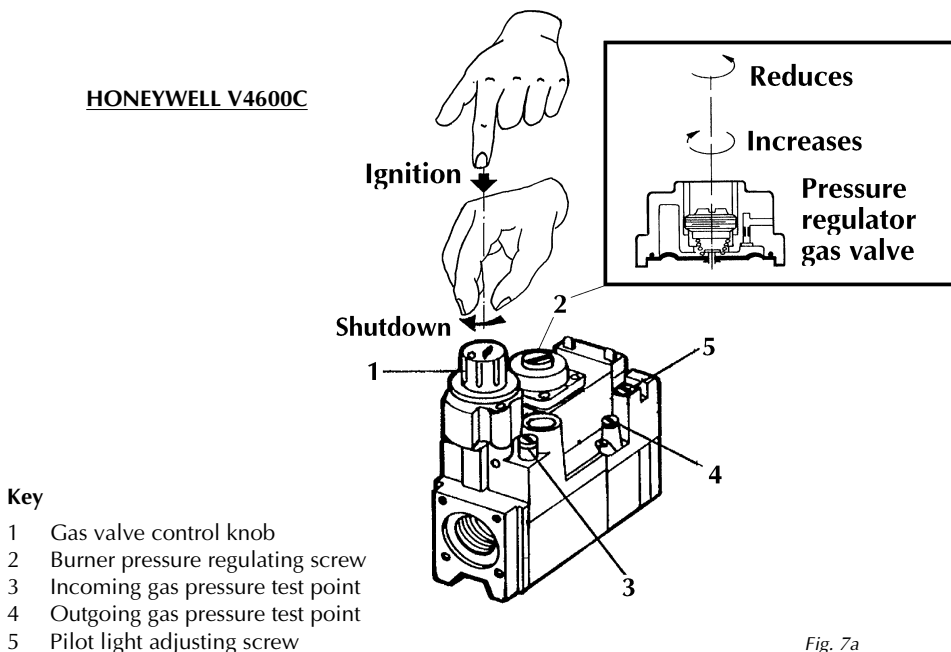

Fig. 7a
5.02 Startup with the HONEYWELL V4600C valve in models 51-68 (fig. 7a)
Release the air held in the gas pipes by opening the incoming gas valve test point marked with the number 3 (fig. 7a).
Turn knob 1 as indicated in fig. 7a-7b (in models 51-68), press button 5 as indicated in fig. 7c (in models 85-102). This turns off the flow of gas to both the main burner and the pilot light. Turn off the gas cock upstream from the boiler and switch off the power supply.
- Make sure the pilot light is adequate and well adjusted; if it is not, adjust it using the gas valve adjusting screw (fig. 7a-7b-7c).
Adjust the burner pressure at the main burners by turning screw 2 (fig. 7a): turn it clockwise to increase the burner pressure and anticlockwise to decrease it. (burner pressure test point 11 fig. 2a/2b).
The pilot light may be adjusted by eye, without the use of instruments, by checking that the flame correctly envelopes the thermocouple without burning excessive gas. To adjust the flame, turn screw 5 (fig. 7a). To convert the boiler from NATURAL GAS to LPG, besides replacing the injectors you should carefully set the pressure regulating screw 2 all the way in.